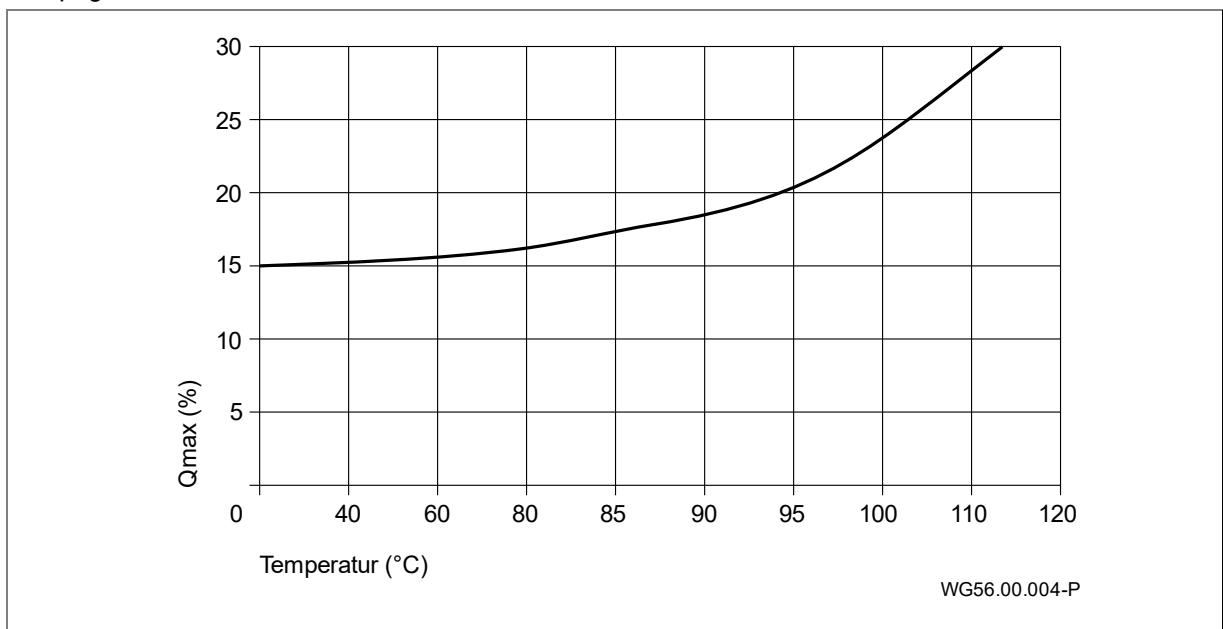

Fig. 1
- The minimum flow rate must be adhered to. The minimum flow rate corresponds to a percentage of the maximum flow rate  $Q_{\max}$  dependent on the temperature of the pumped fluid. See "Fig. 1" on page 10